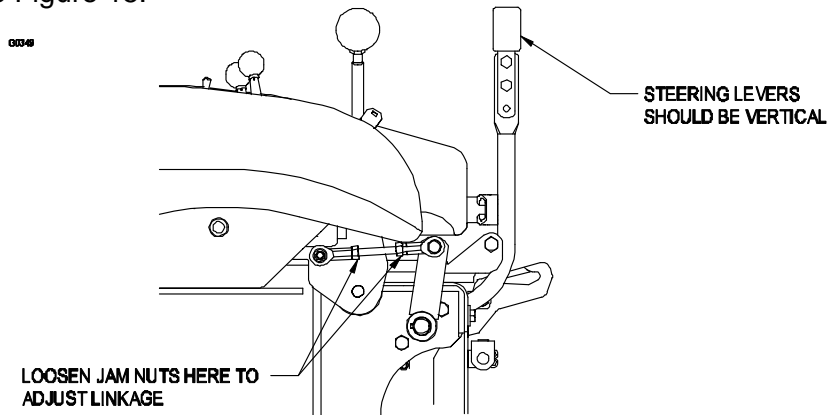

FIGURE 15
- b) Pull the speed control lever completely back to the neutral position. The two steering levers should be straight up and down (vertical). If necessary, adjust steering levers by changing the length of the link between the speed control lever and the control arm on the end of the steering control shaft. See Figure 15.